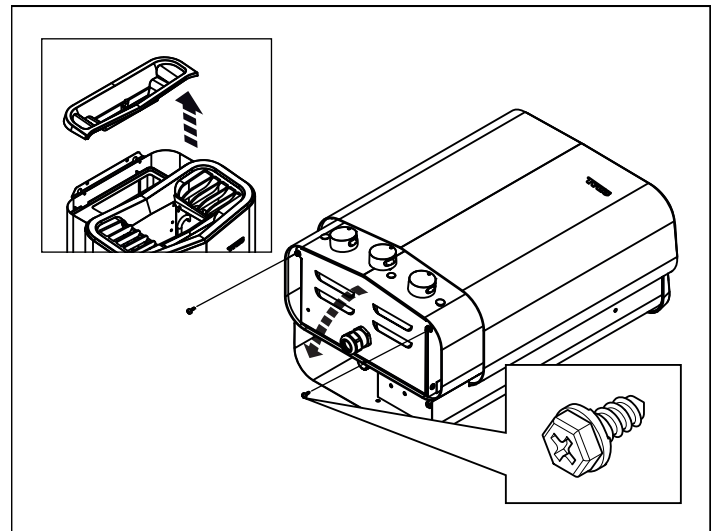

Figure 5: Opening/closing the cover
1. Remove the cover on the water reservoir and lay the heater down with the front facing upwards (see Figure 5).
2. Undo the screws and open the cover (see Figure 5).
4. Close the cover and tighten the screws (see Figure 5).